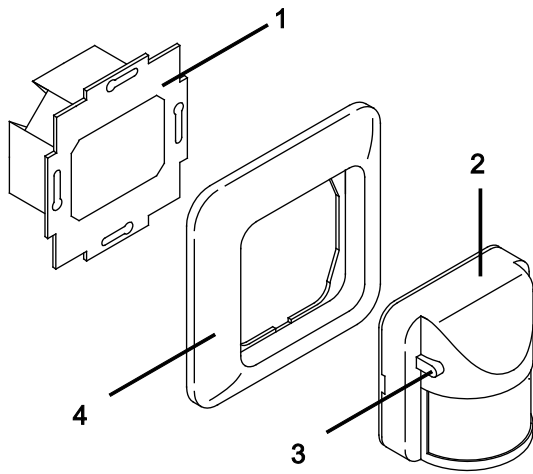

Fig. 5: Device diagram for protection class IP 20
The middle position of the sliding switch (Fig. 5, Position 3) can be secured against unauthorised adjustment (e.g., for use in hotels and administration buildings) using an included screw on the back side of the device.
3. Place the sensor (Fig. 5, Position 2) and the cover frame (Fig. 5, Position 4) on the flush-mounted insert and lock it into place.